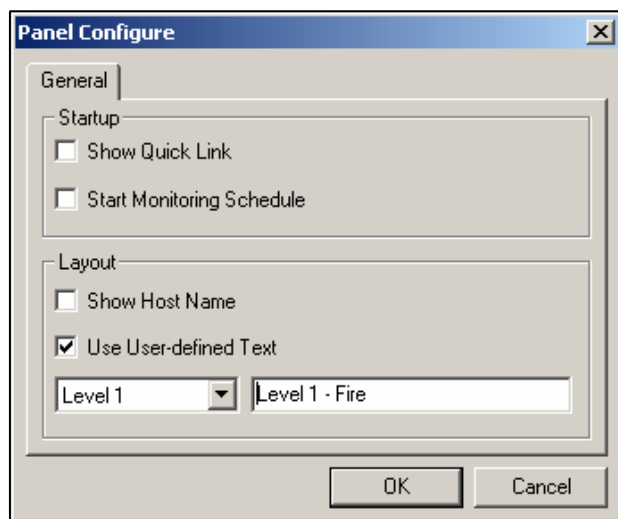

Figure 6-22
- ☒ To set the Quick Link window at panel startup, see the **Show Quick Link** option in Figure 6-22.